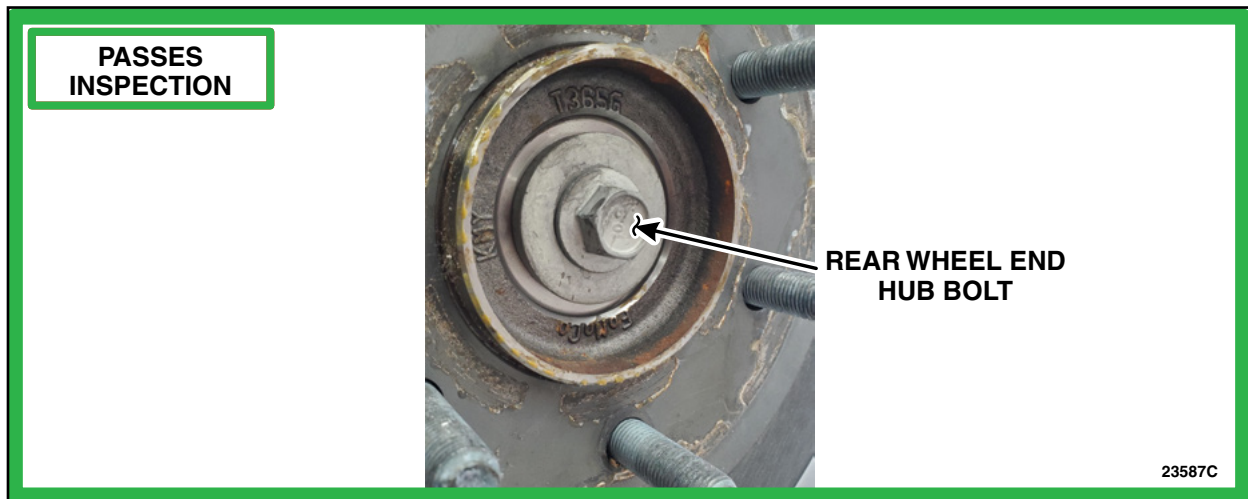

FIGURE 2
4. On both sides, inspect the rear wheel end hub bolt. Is the wheel end hub bolt loose or broken on either side? See Figures 2 and 3.